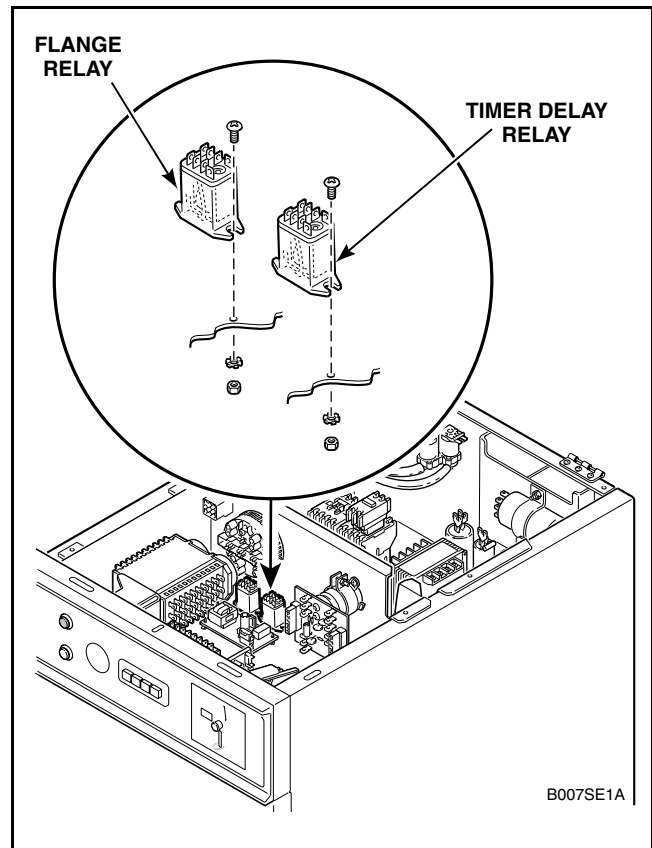

Figure 7
- d. Remove timer delay relay from control module box, refer to *Figure 7*.
- d. Remove flange relay from control module box, refer to *Figure 7*.